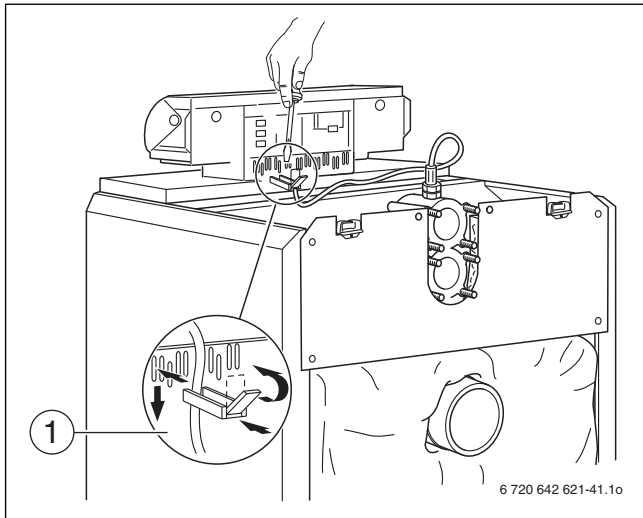

Fig. 50 Fastening the electr. connecting leads
- ▶ Insert cable clips with cable inside into the clip frame and secure by clamping it with the lever (Fig. 50, [1]).